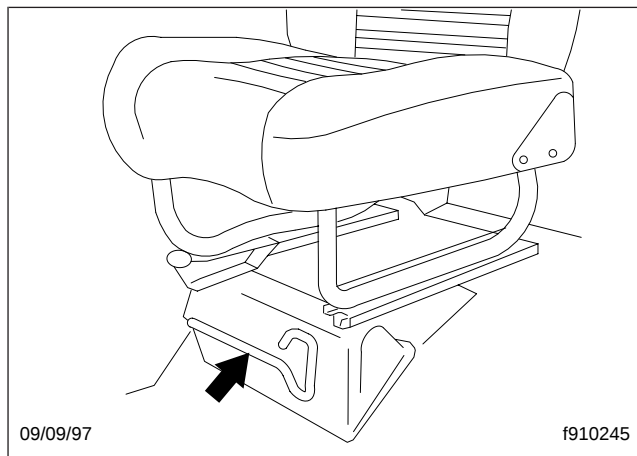

Fig. 2.14, Cab Lock Handle
2. The handle for the cab lock control is located on the lower front face of the driver's seat (Fig. 2.14). Remove the handle from the housing.